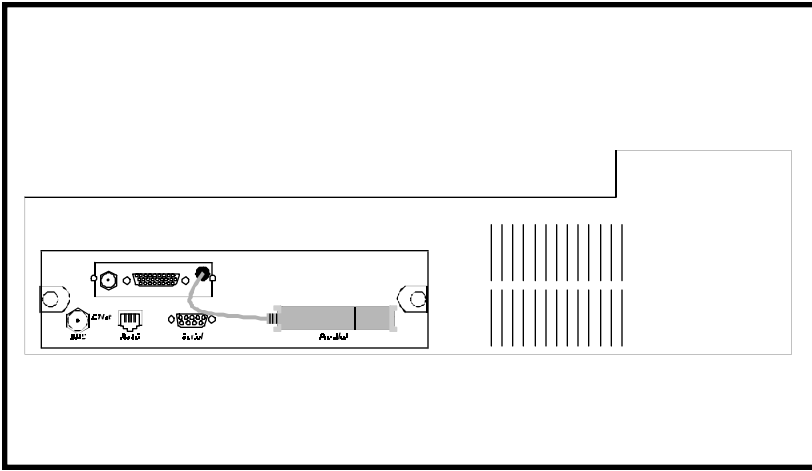

figure 2.6
- ▲ Connect the 3270 X/LT parallel interface to the standard Centronics parallel connection on the printer. Lock into place with wire latches (fig 2.6).